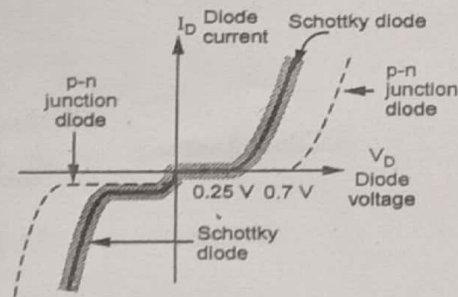

Fig. Q.16.2 Comparison of characteristics
- The characteristics of Schottky diode are shown in the Fig. Q.16.2.